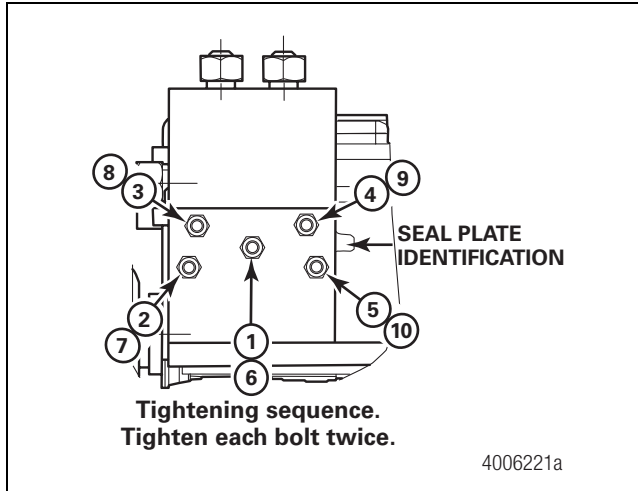

Figure 5
1. Place a screw into the center mounting hole of the relay valve. Use a hex-head socket tool for positioning. Place the new relay valve seal onto the relay valve using the screw to align the seal. The orientation should match Figure 5. Position the relay valve against the HCU. Thread the screw into the HCU.
3. Use a torque wrench to tighten all five screws to 71 in-lb (8 N•m) following the numbered sequence illustrated in Figure 5.